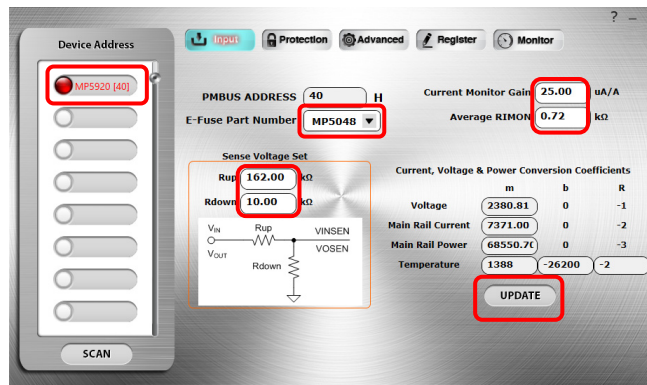

**Figure 1: PMBus Connection Diagram**
1. Use the PMBus interface kit (EVKT-USBI2C-02) to connect the EV5920-5048-V-00A to a PC (see Figure 1).